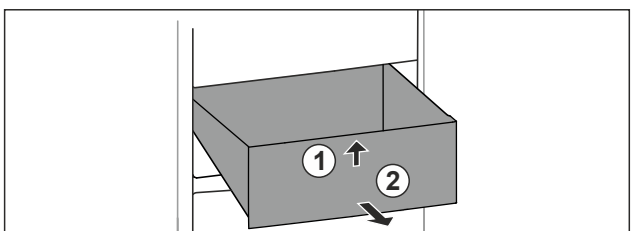

Fig. 69
- ▶ Lift up drawer at the front. Fig. 69 (1).
- ▶ Remove drawer to the front. Fig. 69 (2).